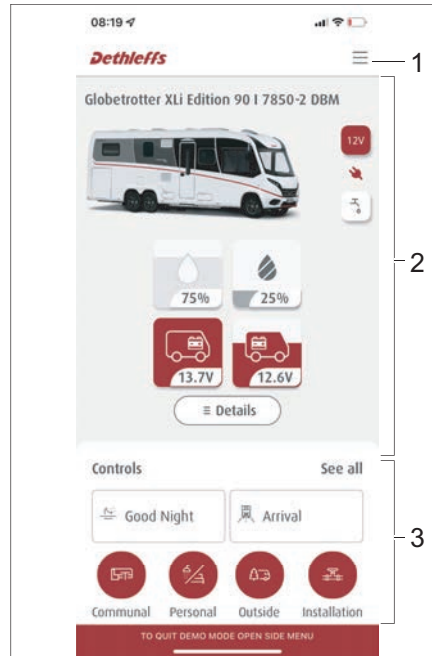

Fig. 275 Dethleffs Connect App design
- Menu section (Fig. 275,1)
- Vehicle information (Fig. 275,2)
- Handling and scenarios section (Fig. 275,3)